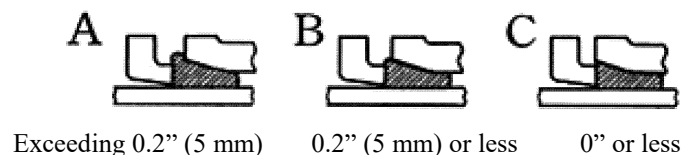

Figure-23 State of rubber gasket protrusion
- 1) Check the protrusion of the rubber gasket from the bell end at four locations. (See Figure-23.) Ensure there are no simultaneous combinations of A and C or A, B, and C on the same circumference.